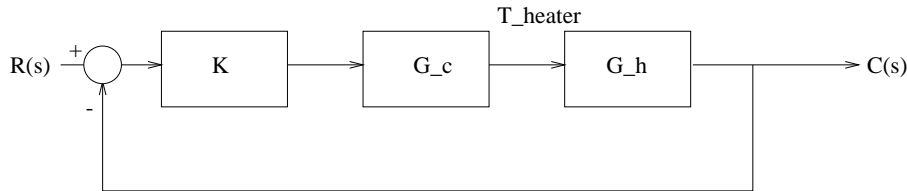

Figure 2: Water temperature control loop - desired temperature R , output C
- (b) Divya now embarks upon using feedback, as in the block diagram in Figure 2. At first, Divya tries compensating the system with $G_c(s) = 1$ and just varying the proportional gain K .